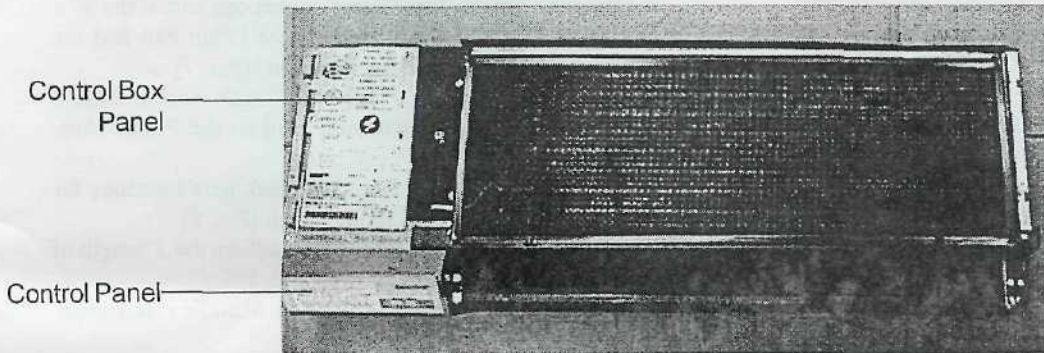

Fig. 2- View Of Unit With Cabinet Assembly Removed.
3. Remove Front Cabinet Assembly to expose Control Panel and components. [FIGS. 2, 3]